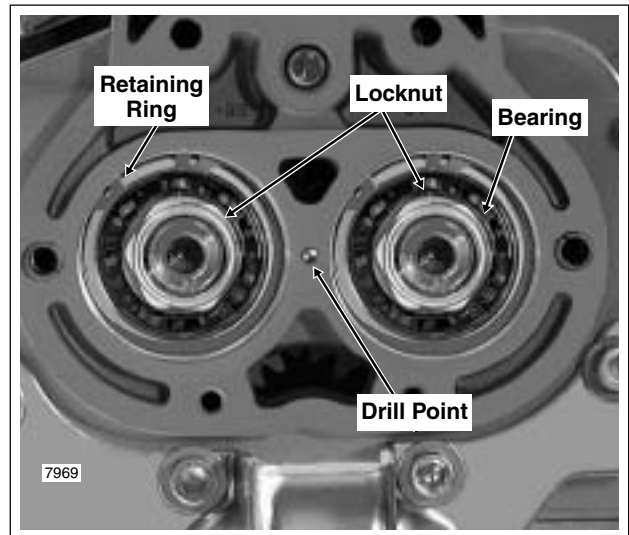

Figure 7-23. Side Door Bearings
Note that one side of the retaining rings are beveled. Always install the ring with the beveled side opposite the bearing. Side doors using the beveled retaining rings are marked with a "drill-point" hole between the bearing bores. See Figure 7-23.
7. Install a spacer and locknut on the threaded end of each shaft and tighten the nuts until finger tight. See Figure 7-23. Final tightening is performed under INSTALLATION, steps 4 and 5.
5. With the transmission locked, tighten the mainshaft and countershaft locknuts to 45-55 ft-lbs (61-75 Nm). See Figure 7-23.